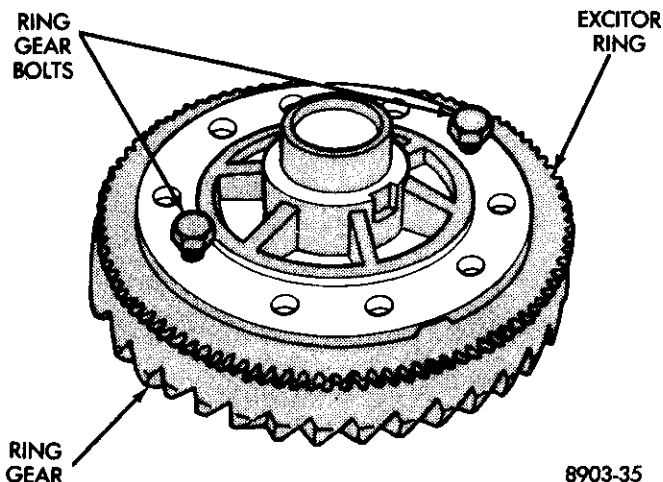

Fig. 21 Ring Gear Bolt Hole Alignment
(2) Invert the differential case and start two ring gear bolts. This will provide case-to-ring gear bolt hole alignment (Fig. 21).